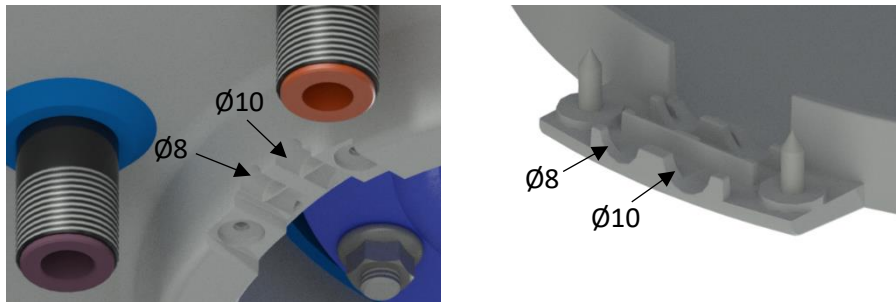
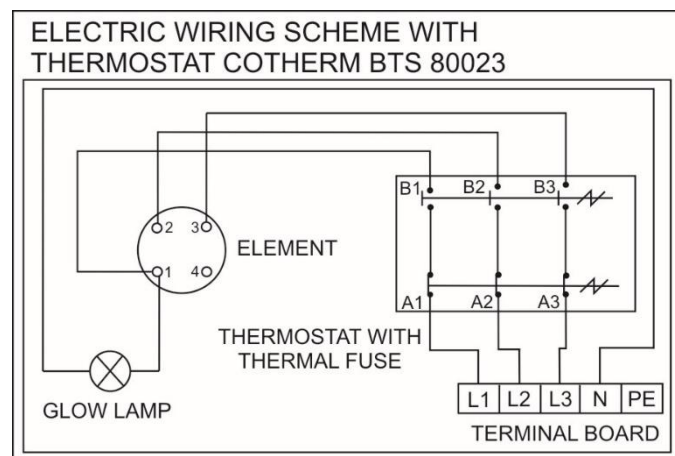

Figure 6
Figure 7
Perform the connection according to the scheme. Factory connection must not be changed! (Figure 7). In the electric wiring casing remove the partition corresponding with the input wire diameter $\varnothing 8$ or $\varnothing 10$ (Figure 6). The degree of protection of electric parts of the heater is IP 44. Power input of electric element is 4,000 W.
- The electric wiring scheme is attached to the water heater on the side of the electric installation guard (Figure 7)